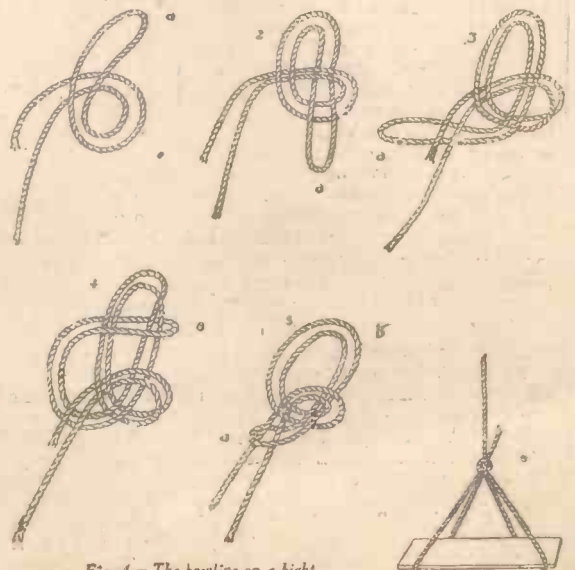

Fig. 4.—The bowline on a bight.
You remember the bowline—the single bowline, that is, of which we spoke in the last article? Fig. 4 shows the bowline on a bight, a rather more complicated affair, but quite easy to make with a little practice. A bight, by the way, is a double end of cord or rope. The important stage is shown in Fig. 4 (3)—the loop (a) must pass under both the standing part and the running end. Now notice the next stage, Fig. 4 (4); the loop is passed over the whole knot until it lies over the standing part and the running end, Fig. 4 (5), the double loop (b) is then pulled until the knot is tight. This knot gives a pair of absolutely non-slipping loops on the end of a rope. Its use is shown in Fig. 4 (6). You have all seen men painting the funnels or sides of ships, sitting on little plank seats supported by two loops of rope. You probably did not know that those two loops were formed by means of the bowline on a bight, but that is the knot used for the purpose.